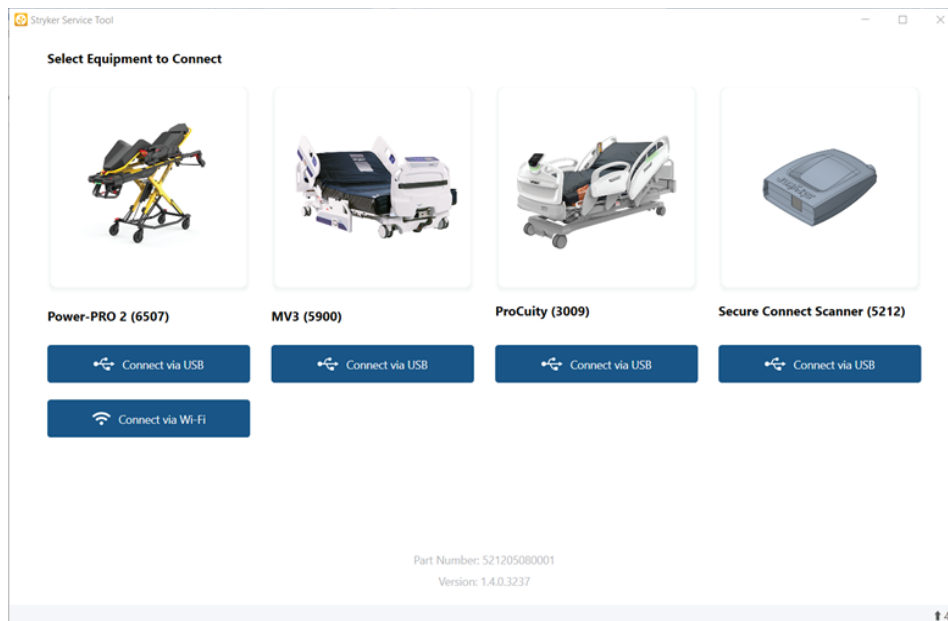

Figure 4 – USB Connection to Power-PRO 2 (6507)
4. Select **Connect via USB**, located under **Power-PRO 2 (6507)** (Figure 4).